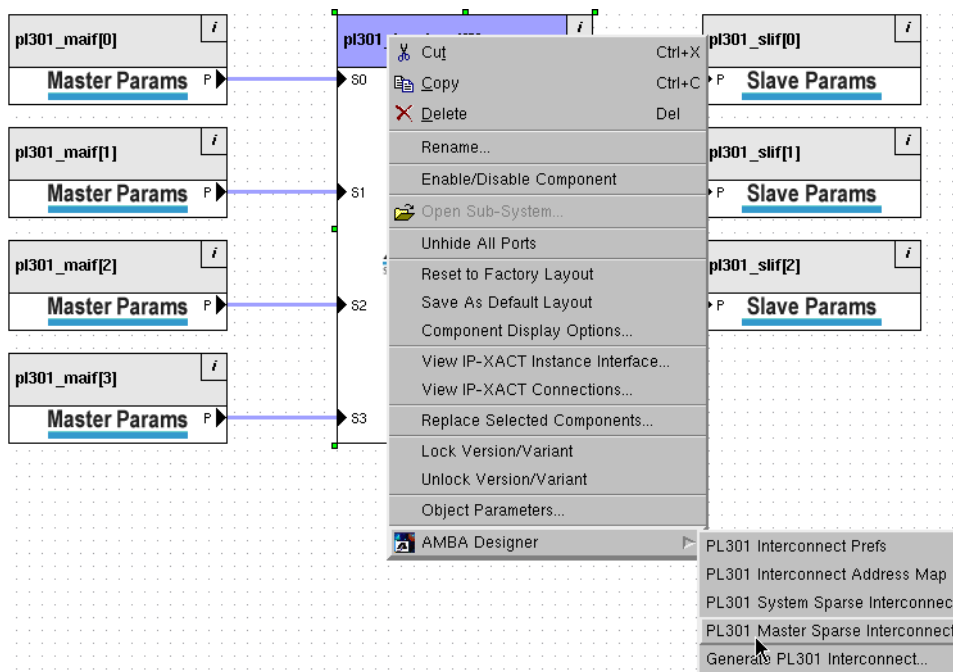

Figure 4-40 Accessing the master sparse interconnect
10. Select **AMBA Designer** → **PL301 Master Sparse Interconnect** from the context menu, as Figure 4-40 shows.